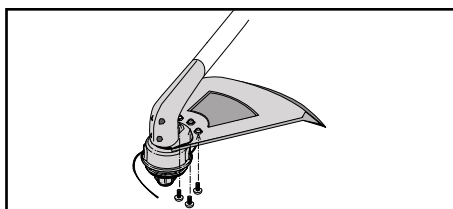

Fig. 8
3. Install the screws into the holes from the bottom of the guard (Fig. 8).